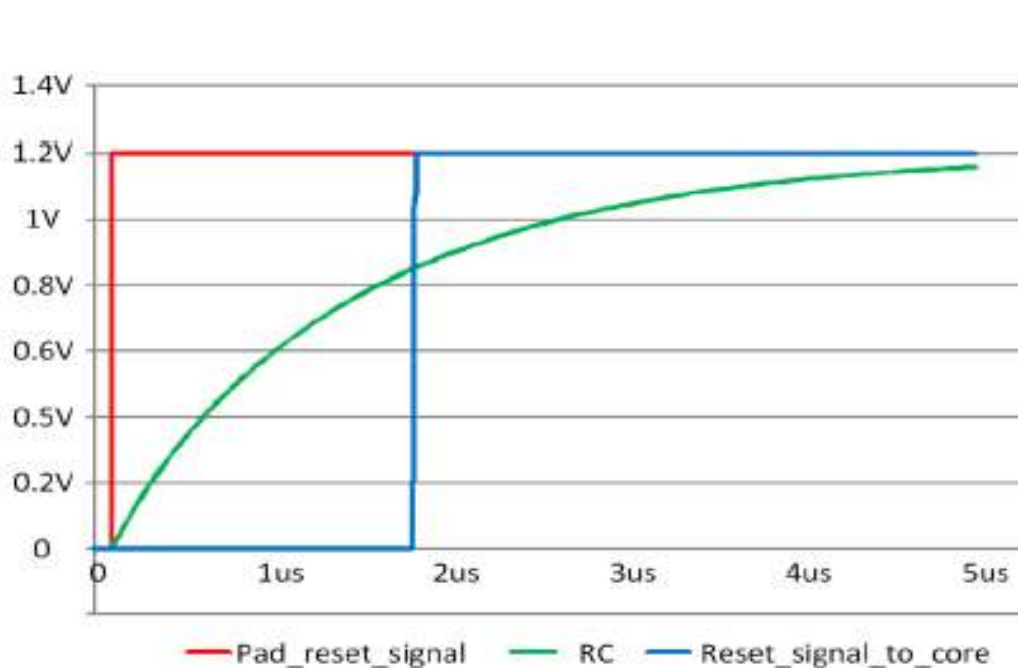

Figure 4. RST Pad Latency
The response is illustrated in the **Figure 4** which displays the voltage (V) on the vertical axis and the time (μs) on the horizontal axis: